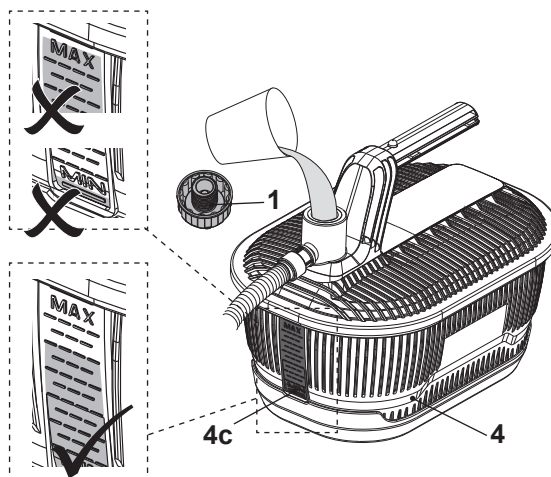

Fig. 8
- > Pour water into the water tank (4) until the water level reaches between the **MIN** and **MAX** markings on the water level indicator (4c) (Fig. 8). Use a proper funnel if necessary. Do not overfill. Drain the water tank if the water level exceeds **MAX** level.